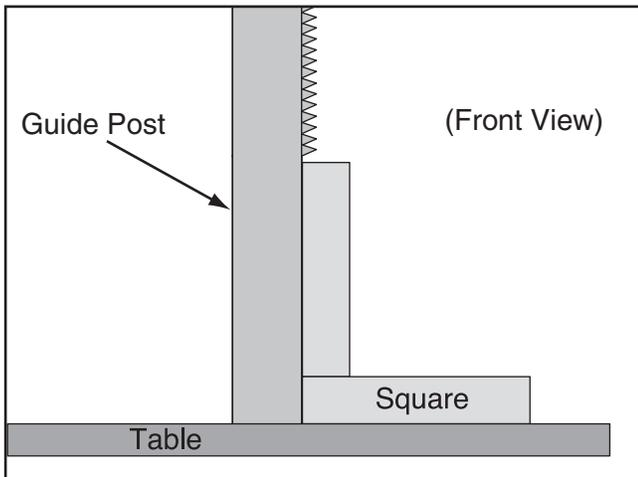

Figure 66. Example of checking guide post squareness.
- Place a machinist's square on the table next to the right hand side of the guide post, as shown in **Figure 66**.